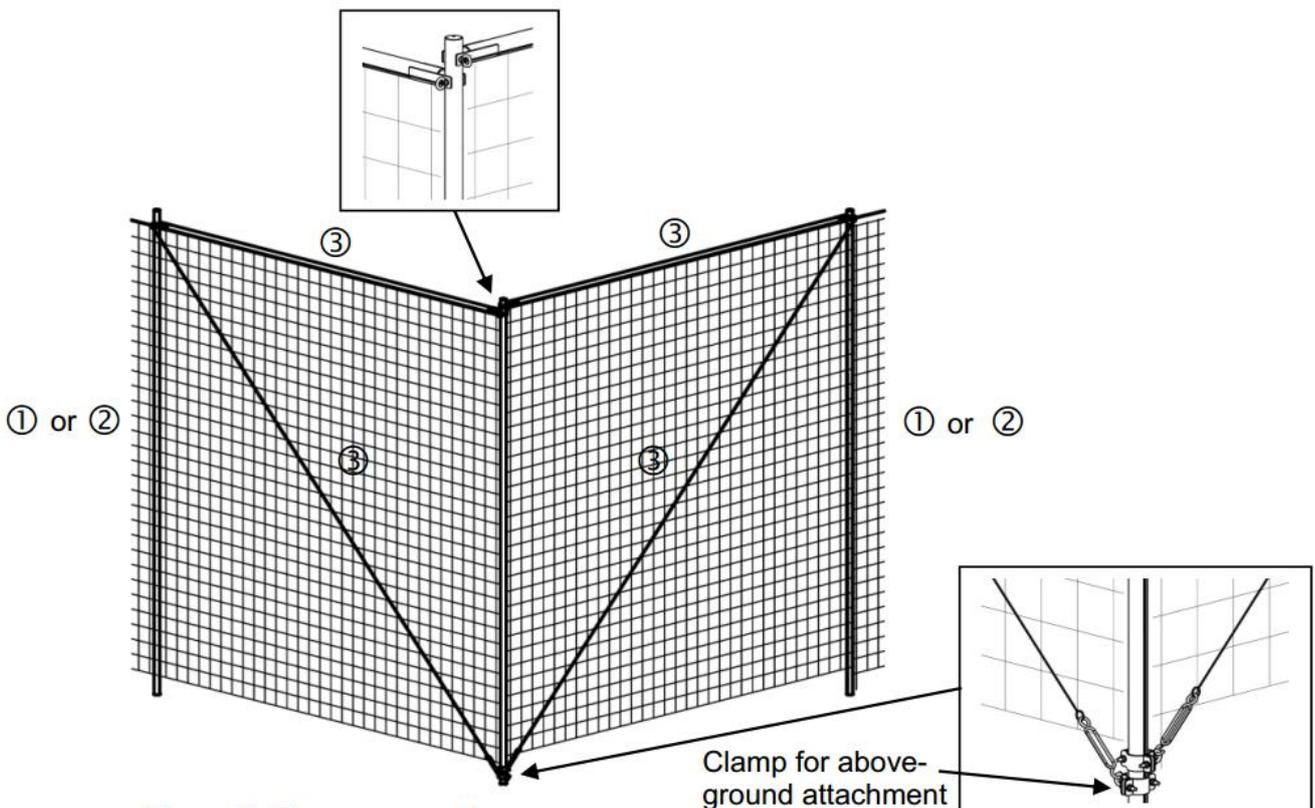

Figure 4: Corner assembly
If the barrier is set up in a corner, the assembly should be carried out as shown in figure 4. Both end sections with the crossbeam and tensioning cable ③ must be attached to the corner post, whereas one crossbeam must be mounted to a hole that's a little higher than the other.